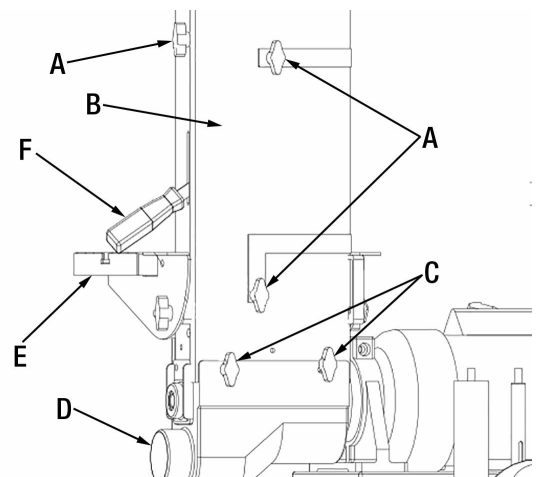

Figure 12
1. Remove the 3 lock knobs (A) Fig.12 which secure the upper belt safety guard (B).
2. Remove the 2 lock knobs (C) Fig.12 which secure the lower belt safety guard (D), remove the lower belt safety guard, then lift and remove the upper belt safety guard (B).
3. Remove the belt table (E) Fig.12.
4. Raise the belt tension quick release lever (F) Fig.12 to release the tension on the sanding belt. Remove sanding belt.